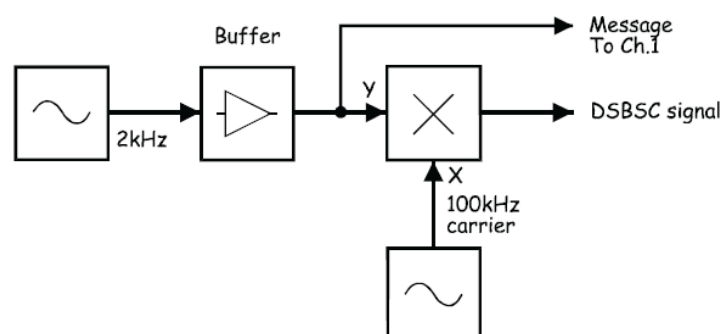

Figure 4.3 Investigation of the effect of amplitude variation in signal input.
- Use the Buffer module to modify the set-up as shown in Figure 4.3 below. Do not disconnect the demodulator section.